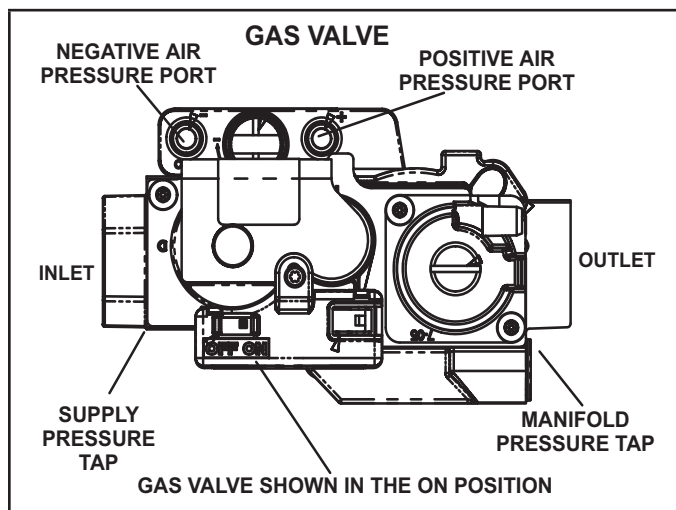

FIGURE 54
## Gas Valve Operation (FIGURE 54)
- 6 - Move the gas valve switch to the OFF position. See FIGURE 54.
- 8 - Move gas valve switch to the ON position. See FIGURE 54. Do not force.